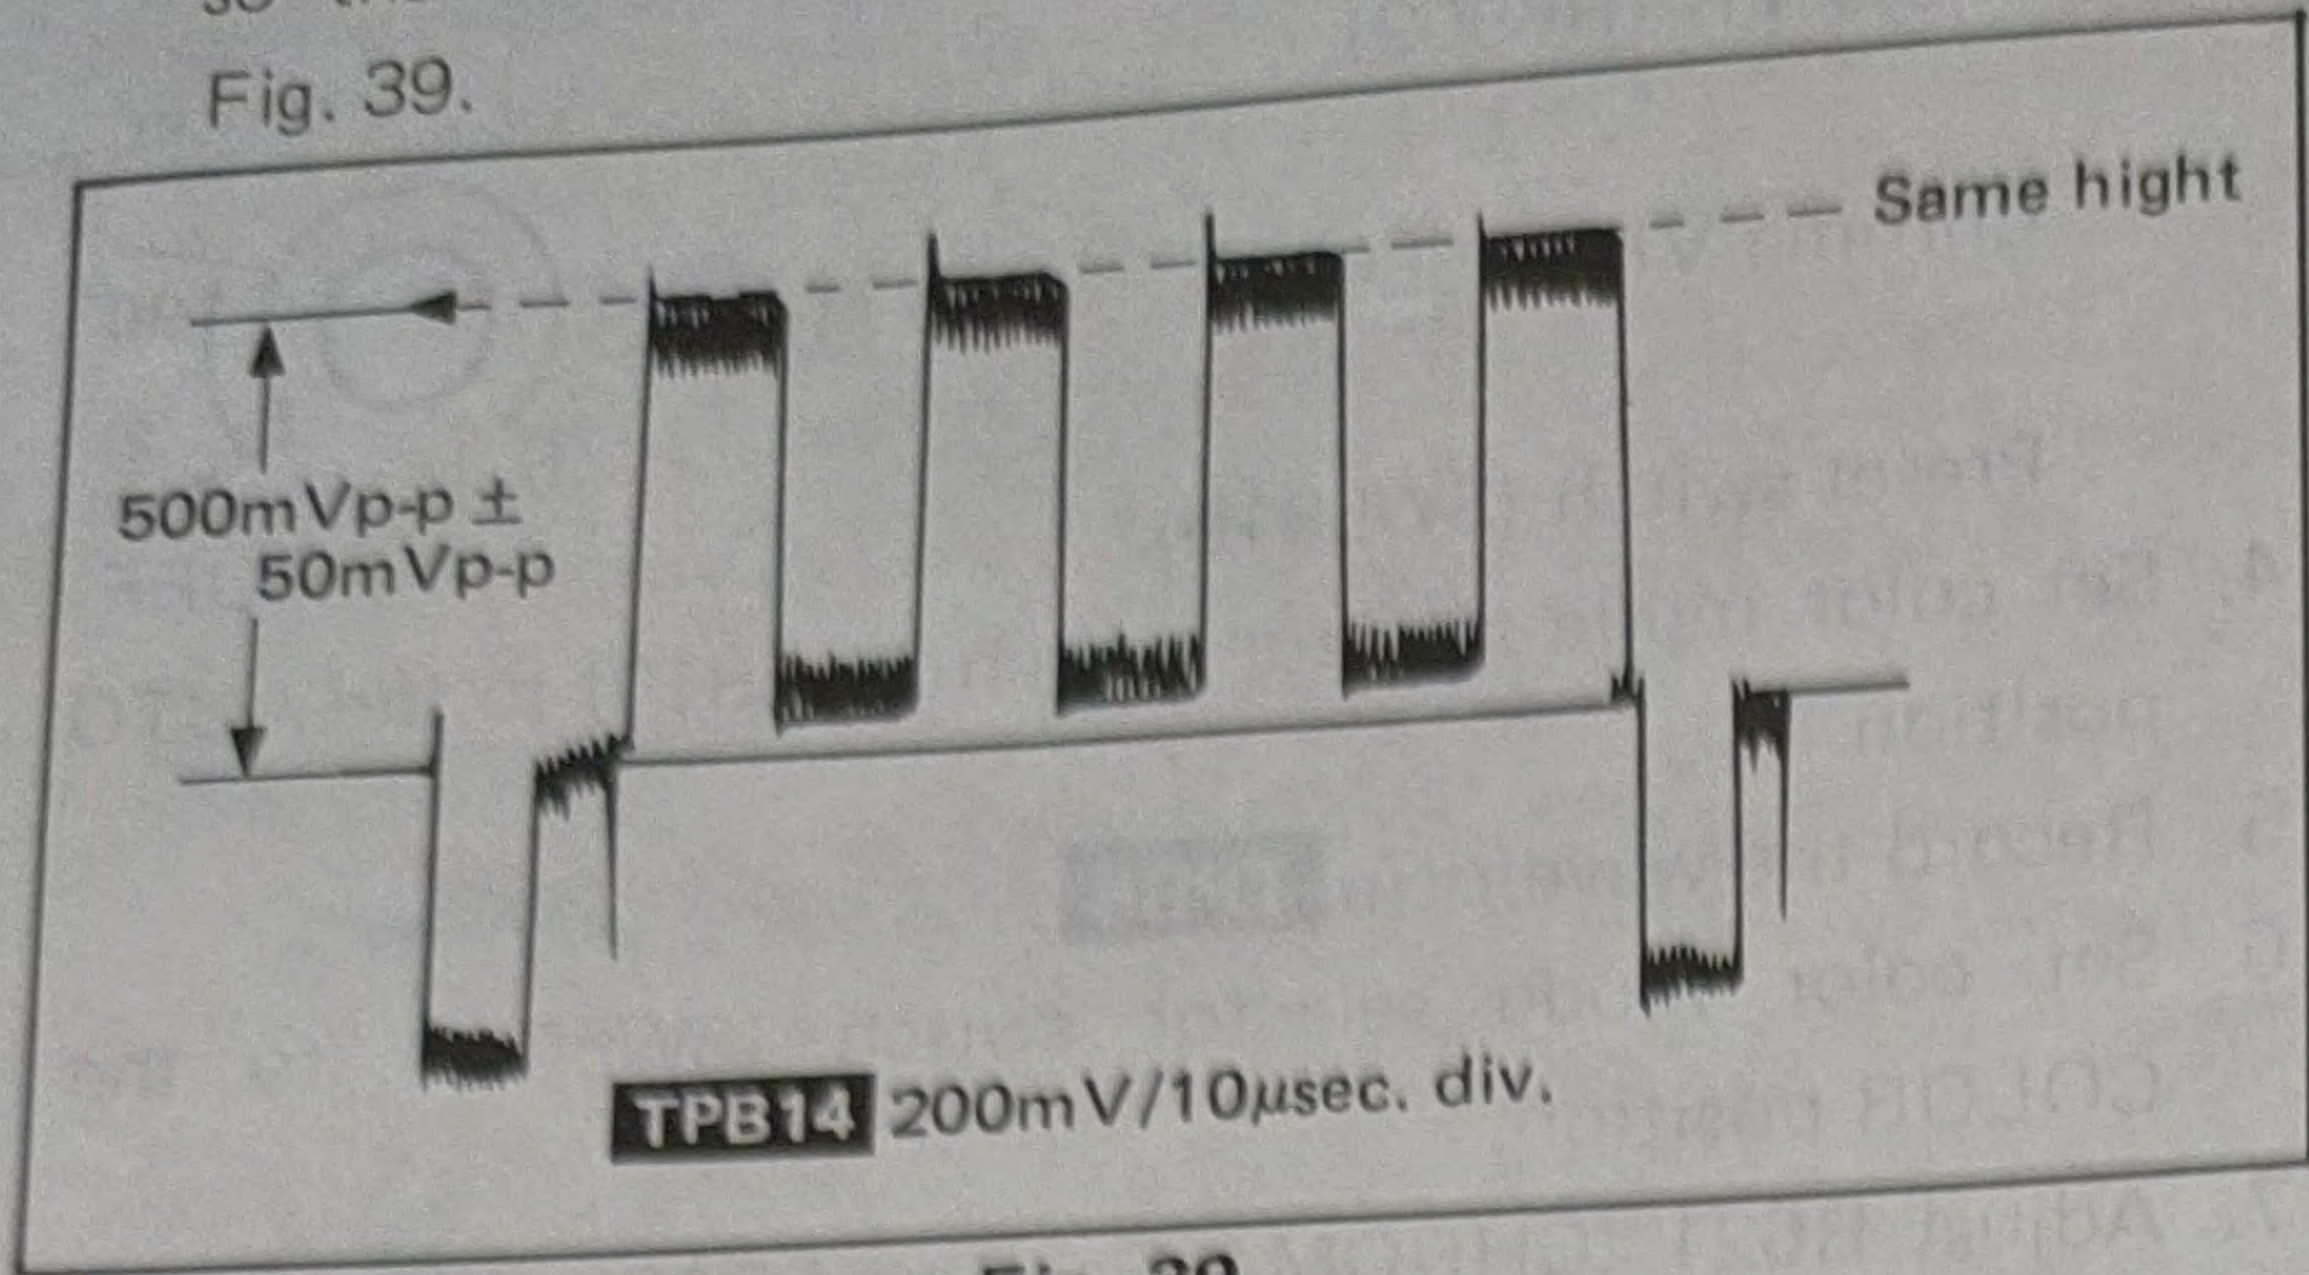

Fig. 39
4. Adjust chroma VR (R5804) and Phase VR (R5809) so that the waveform **TPB14** becomes as shown in Fig. 39.